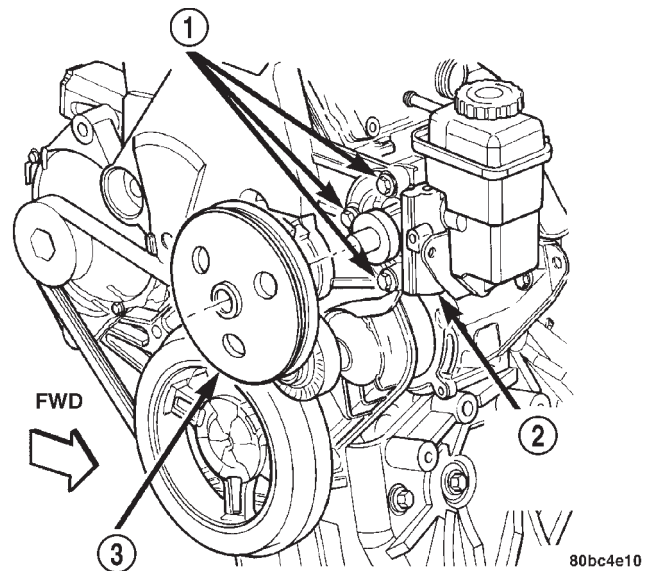

Fig. 4 Power Steering Pump Mounting Bolts
(8) Remove the three mounting bolts holding the power steering pump to the cast bracket (Fig. 4). Access to the mounting bolts can be achieved through the holes in the pump pulley.
(9) Remove the power steering pump with reservoir from the engine.
(10) For removal and installation of the power steering pump pulley, refer to DISASSEMBLY AND ASSEMBLY in this section.
(1) Install the power steering pump with reservoir and pulley on the engine and install the three mounting bolts securing the pump to the cast bracket (Fig. 4). Tighten the three bolts to a torque of 28 N·m (250 in. lbs.).